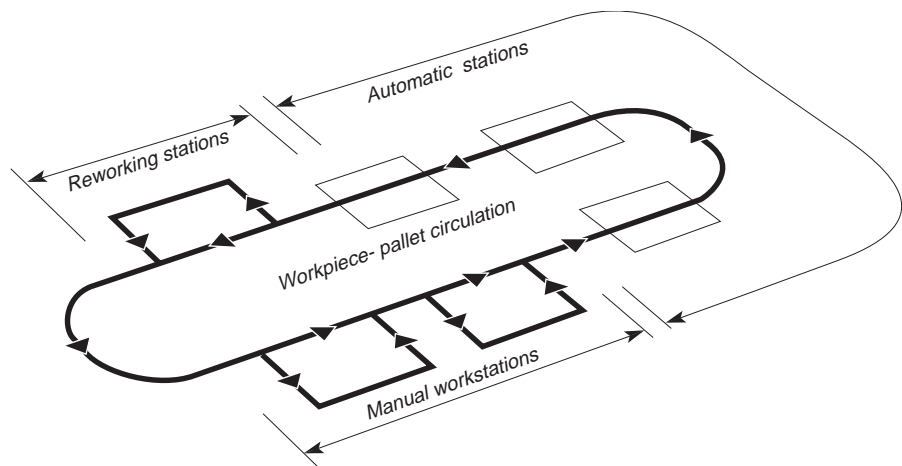

Figure 5: Line balance
1. **Phased implementation** - Stand-alone assembly tasks, for example, can be moved on-line to increase productivity; later, manual stations can be replaced with automated stations, as required. See Figure 5.